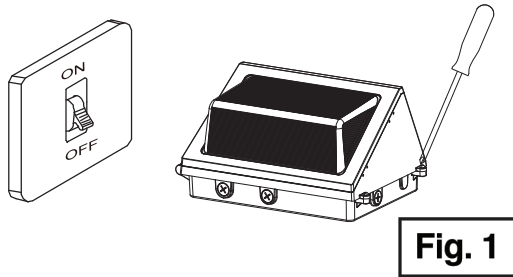

Fig. 1
1. Turn off the power. And use a screwdriver to loosen the two (2) screws on the side of the fixture. (See Fig. 1)
1. Use a screwdriver to loosen the two (2) screws on the side of the fixture. (See **Fig. 1**)